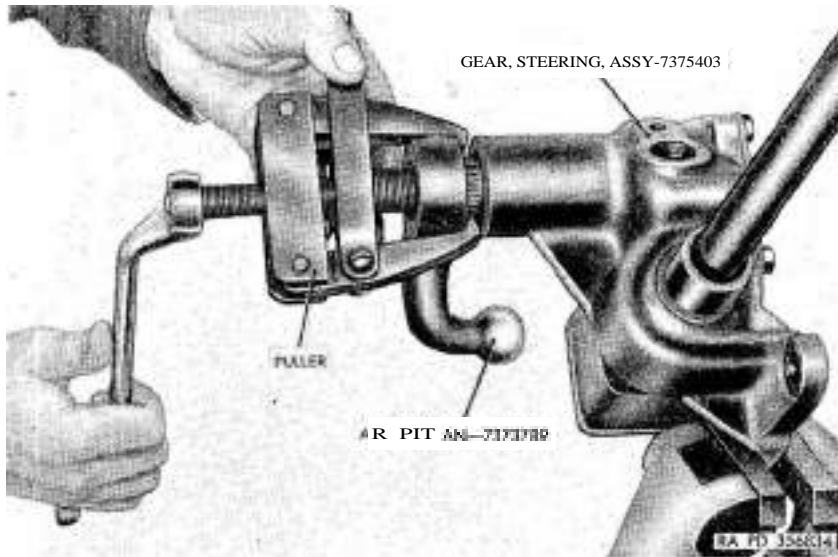

Figure 160. Removing pitman arm with puller.
d. Remove Pitman Arm from Pitman Arm Shaft. Remove pitman arm nut (W) and pitman arm lock washer (X) from pitman arm shaft (H). Install puller (fig. 160) and pull pitman arm (Y) from shaft.